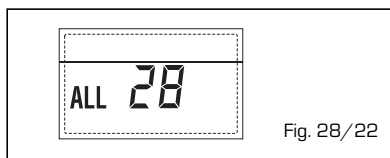

Fig. 28/22
**- ANOMALIA NUMERO SCHEDINI COLLEGATI "ALL 29" (fig. 28/23)**